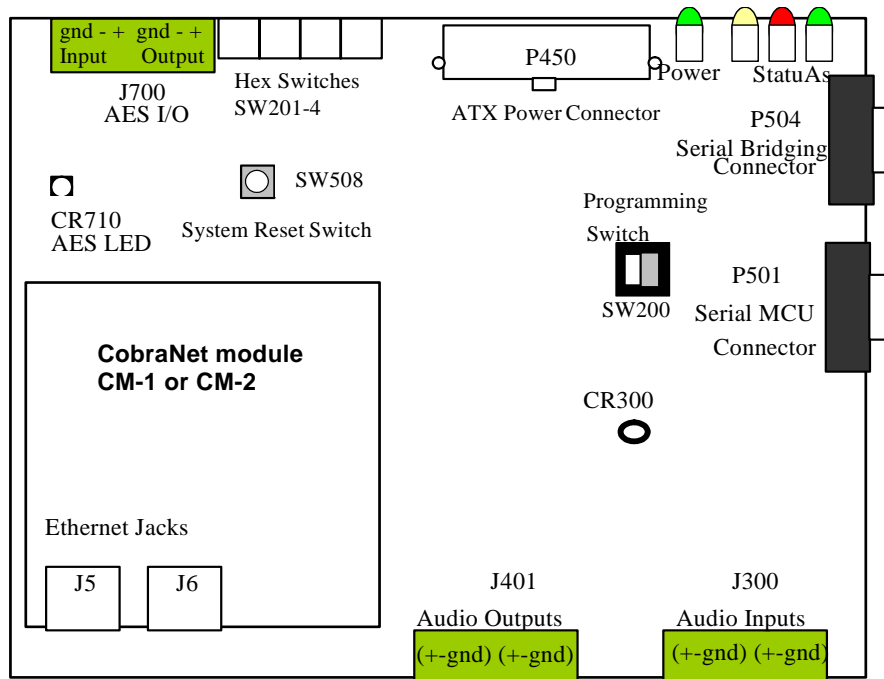
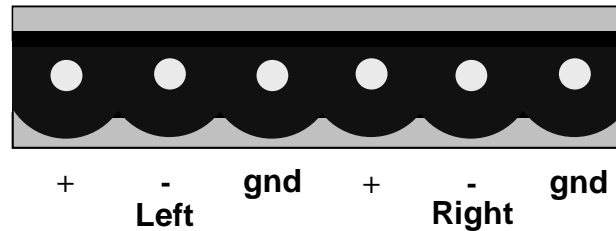
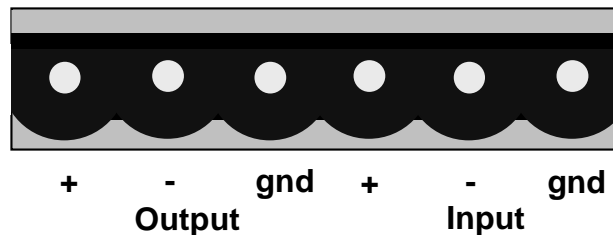

Figure 2. Connector, Switch and Jack Locations
Figure 3. Analog Audio Input and Output Phoenix-style Connectors
Figure 4. AES3 I/O Phoenix-style Connector
- Using the supplied Phoenix connectors, build audio input and output cables and two AES3 cables (if desired). These will be used to connect your audio input and output devices to the EV-2 modules. For analog audio pin assignments, see *Figure 2* or *Figure 3* below. For AES3 pin assignments, see *Figure 4* below.
Audio Input Connector: Phoenix-style connector for two-channel balanced audio input, +14.4 dBu maximum (0 dBFS). Refer to *Figure 3* for the signal connection.
Audio Output Connector: Phoenix-style connector for two-channel balanced audio output, +8.3 dBu maximum (0 dBFS). Refer to *Figure 3* for the signal connection.
AES3 I/O Connector: Phoenix-style connector for an AES3 stream. Refer to *Figure 4* for the signal connection. For the AES3 tranceiver to operate properly a valid AES3 signal must be provided at the AES3 input.